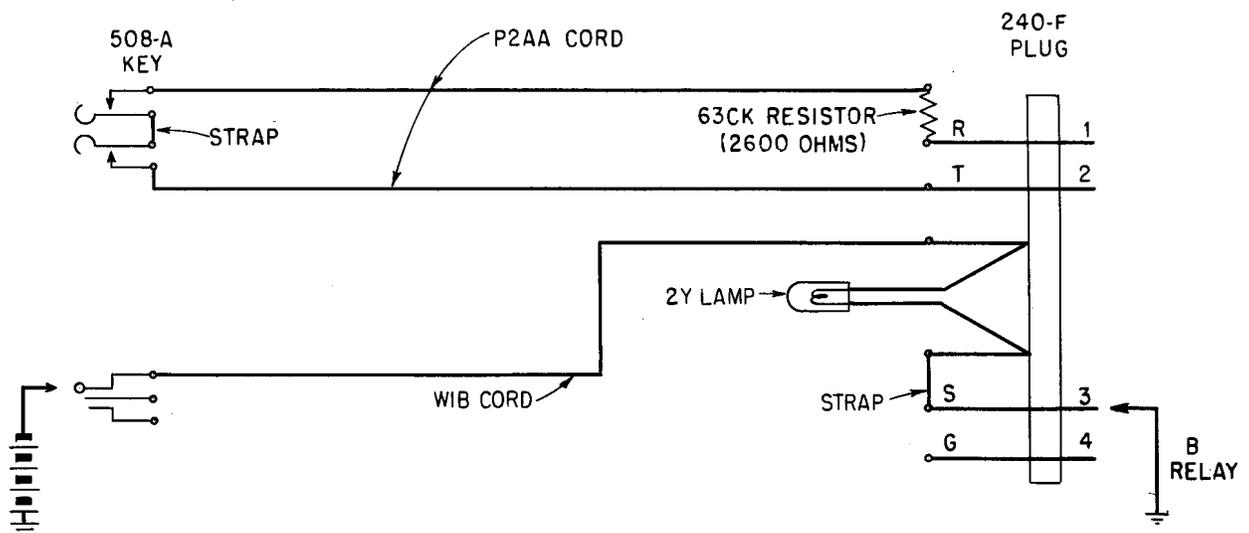

Fig. 1 - Selector Seizure Test
2.01 Assemble locally the test set shown in Fig. 1 as follows: